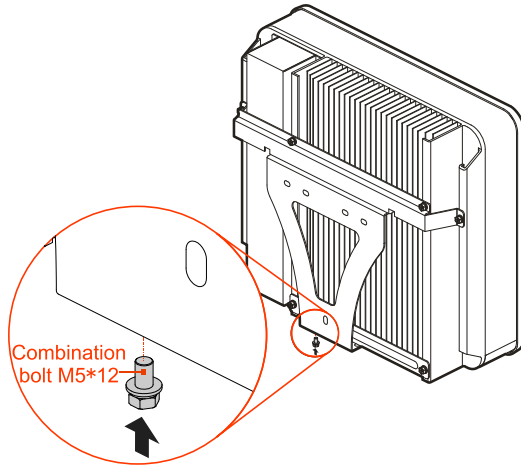
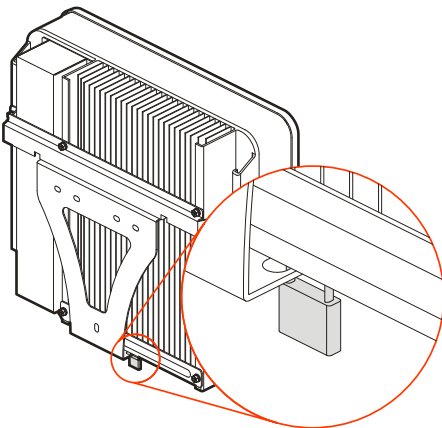

Figure3-12 Fasten the inverter
Figure3-13 Position of lock (The lock customer provided)
- Step 6 Fasten the inverter to the installation holder by stainless steel combination bolt M5\*12 (as shown in Figure3-12) and then lock it. The lock position is as shown in Figure3-13.